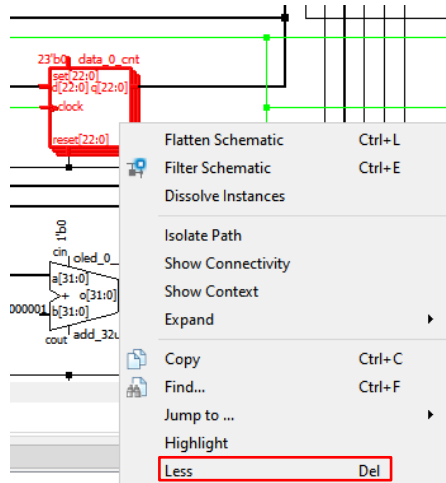

Figure 3.9. Click on Less to Trim the Selected Module
- Right-click on the schematic view and select **Less** as shown in Figure 3.9.